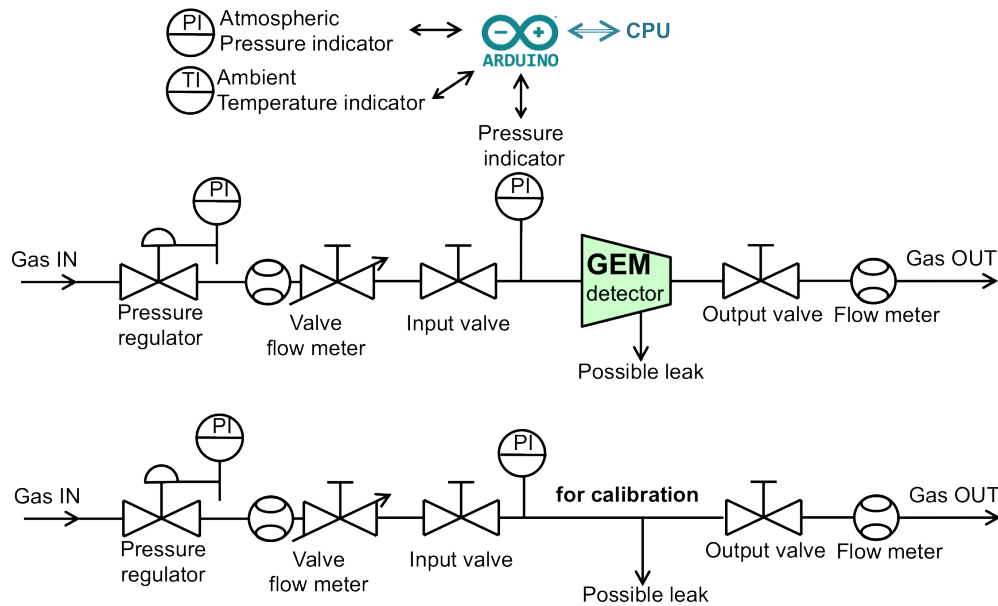

Figure 3.1: Schematic overview of the QC3 gas system for the gas leak test of GE1/1 detectors (top) and for calibration (bottom).
A schematic overview of the QC3 gas circuit is shown in Fig. 3.1 (top). The gas input is connected to a CO_2 gas bottle equipped with a 2-stage pressure regulator with the output pressure being set to a maximum of few hundred millibars. The input flow meter, together with its manual valve, allows controlling the gas flow rate at the entrance of the detector while the output flow-meter helps to monitor the output flow and therefore to identify large leaks. The input and output valves are used to isolate the detector from the rest of the gas system during the gas leak test. The calibration of the gas system itself is done before connecting the detector, as indicated in Fig. 3.1 (bottom)
416 on Fig. 3.1 (bottom). Instructions on how to correctly seal gas connectors
1. Connect the detector's gas inlet and outlet to the gas system as indicated on Fig. 3.1.
The chamber is connected to the QC3 gas system (Fig. 3.1) and flushed with pure CO_2 . The negative HV (VSET) is provided by a programmable HV power supply (e.g. CAEN N1470) that allows the user to control the current limit (ISET), the steps to ramp up and down the voltage, the maximum voltage, and the trip time. This power supply must be able to deliver a current up to 1 mA with a monitoring resolution lower than $1 \mu A$ in order to identify possible leaks, sparks, or unusual current fluctuations.